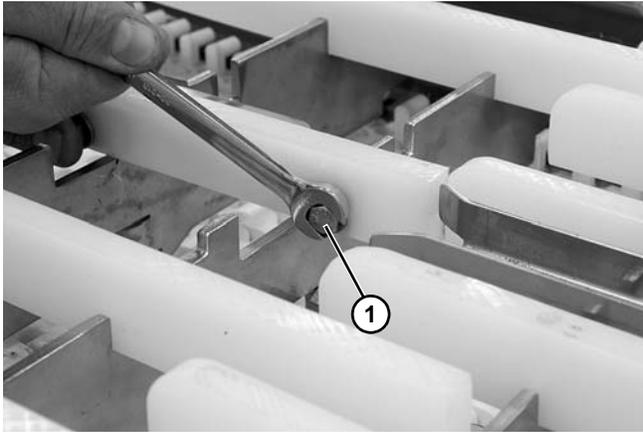

Figure 41
1. Remove the bolt (**Figure 41, item 1**) retaining the wear strip to the frame crossmember.